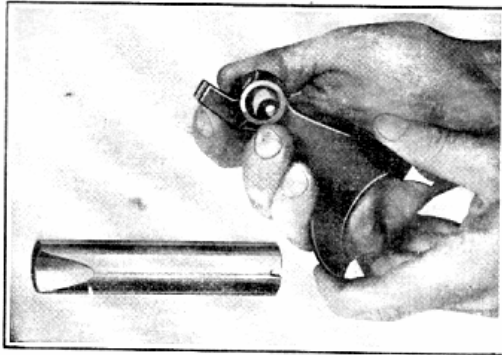

Fig. 9—Depressing Lock Ball
2. In assembling the shifter forks to the shafts, first place the shift lock spring and ball in the fork. With the special tool shown in Fig. 9 force the ball down on the spring in the fork, then turn the tool one-half turn to hold the ball in position. This tool holds the shift lock ball and prevents it from jumping out while the shaft is being installed.